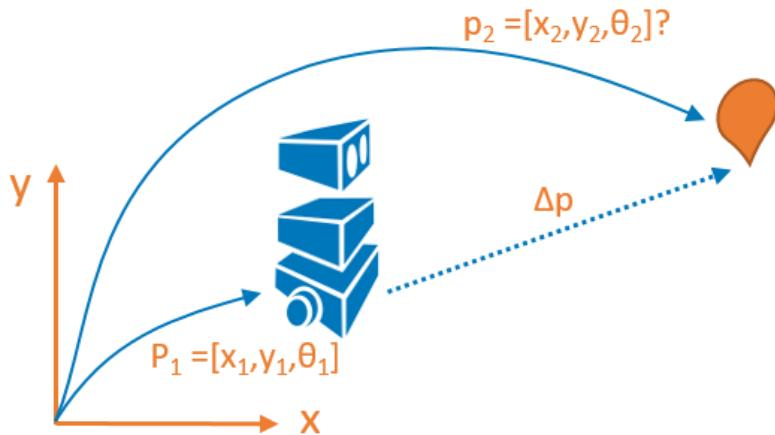

Fig. 1: Example of an initial 2D robot pose (p_1) and its resultant pose (p_2) after completing a motion (Δp).
- **2D pose:** In most cases involving mobile robots, the location alone is insufficient. We need an additional parameter known as orientation or *bearing*. Therefore, a robot's pose is usually expressed as $[x, y, \theta]^T$ (see Fig. 1). *In the rest of the book, we mostly refer to this one.*
The composition of poses is a tool that permits us to express the *final* pose of a robot in an arbitrary coordinate system. Given an initial pose p_1 and a pose differential Δp (pose increment), i.e. how much the robot has moved during an interval of time, the final pose p can be computed using the **composition of poses** function (see Fig.1):